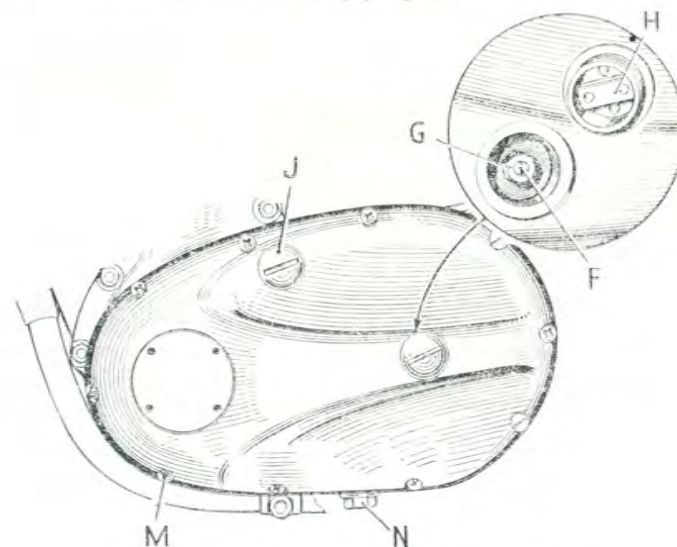
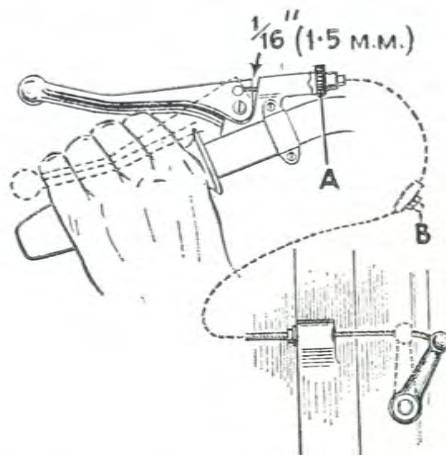

FIG. 21. Clutch adjustment and chaincase oil level.
FIG. 22.
An adjustable slipper-type tensioner is provided for the chain and its slackness can be tested after removal of the filler cap (J) Fig. 21. The chain is in correct adjustment when there is a minimum of $\frac{1}{8}$ in. and a maximum of $\frac{1}{4}$ in. of free play at the midway position between the sprockets.
There is a small oil supply from the primary chaincase through the non-adjustable metered feed on to the rear chain, so that the oil level can be expected to fall very slowly. The screw (M) Fig. 21, which is painted red determines the oil level. To replenish with oil, first
The main adjustment consists of a screw pin (F) and locknut (G) mounted on the clutch pressure plate. These are accessible after removal of the inspection cover (H) Fig. 21.
If adjustment is necessary, slacken off the handlebar cable adjuster (A) Fig. 22, and release the cable from the control lever above the timing cover on the right-hand side of the motor. Release locknut (G) Fig. 21, and adjust the pin (F) until the control lever is inclined outwards by a small amount. Add a short length of tubing to the lever to provide additional leverage and disengage the clutch, when
Finally reconnect the cable to the control lever and re-adjust the cable length at the handlebar lever until there is about $\frac{1}{16}$ in. of free-play at the handlebar (see Fig. 22).